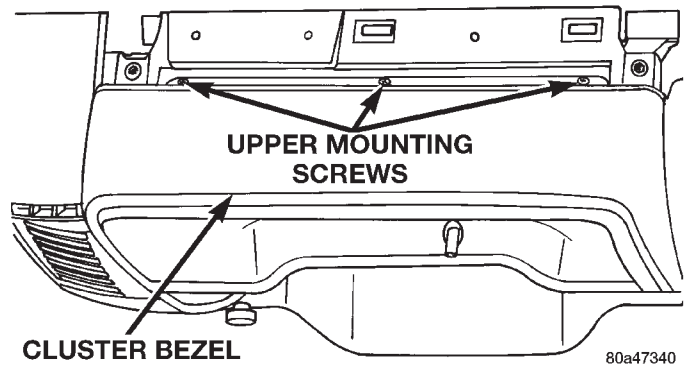

Fig. 8 Cluster Bezel Upper Screws Remove/Install
(5) Remove the three screws that secure the upper mounting flange of the cluster bezel to the instrument panel (Fig. 8).
(6) Remove the cluster bezel from the instrument panel.